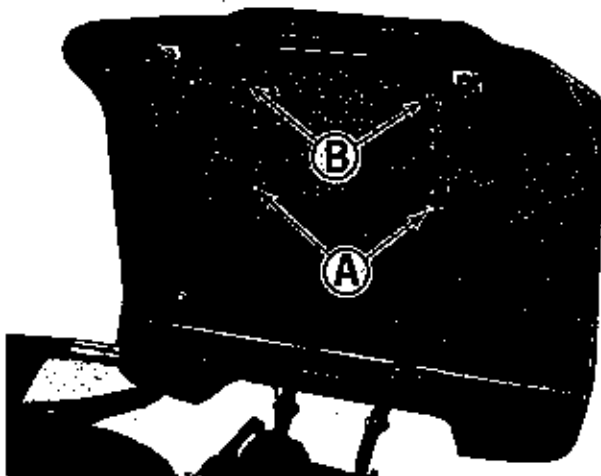
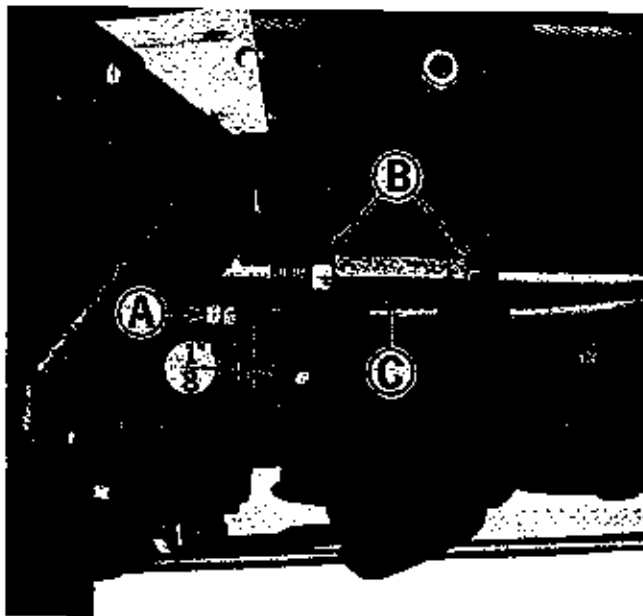

Figure 10. Seat deck raised.
Figure 11. Clutch free travel and hydrostatic transmission neutral adjustment.
locks out raise the seat deck as shown in figure 10. Raising the seat deck in this manner will expose many of the transmission adjustment and maintenance areas.
See figure 10. The tractor seat is properly adjusted when the operator can comfortably operate the clutch and brake pedal while sitting back in the seat. The seat can be adjusted forward or back in any of four positions. If adjustment is required, proceed as follows:
1. See figure 10: Position the seat deck as shown by following the instructions under Raising the Seat Deck on page 10.
2. Remove the two cap screws and lock washers at (A).
3. Remove the two nuts and lock washers at (B).
See figure 11. The clutch free travel is correct when there is 1/8" between the nuts (A) and the rod guide when the clutch brake pedal is released and pulled rearward as far as
1. Raise the seat deck as shown in figure 10, by following the instructions under Raising the Seat Deck on page 10.
2. Using two wrenches hold the forward nut at (A) stationary with one wrench while turning the rearward nut counter-clockwise slightly with the other to separate them.
4. Turn the forward nut at (A) as necessary so that the distance between it and the rod guide is 1/8" as shown in figure 11.
5. Using two wrenches hold the forward nut at (A) stationary while turning the rear one clockwise to tighten the two nuts together securely.
3. See figure 11. Loosen the two locking nuts (B) on either end of turnbuckle (C).
Use an open end wrench to rotate the turnbuckle (Figure 11, item C) until the brake drum (Figure 12, item A) does not rotate. When the brake drum does not rotate when the engine is running at 1/3 full speed, the hydrostatic neutral adjustment is correct.
8. See figure 11. After allowing the belt and pulleys to stop turning, use two wrenches to tighten the locking nuts (B) against turnbuckle (C). Tighten the locking nuts (B) one at a time, while using the other wrench to hold turnbuckle (C) from rotating.